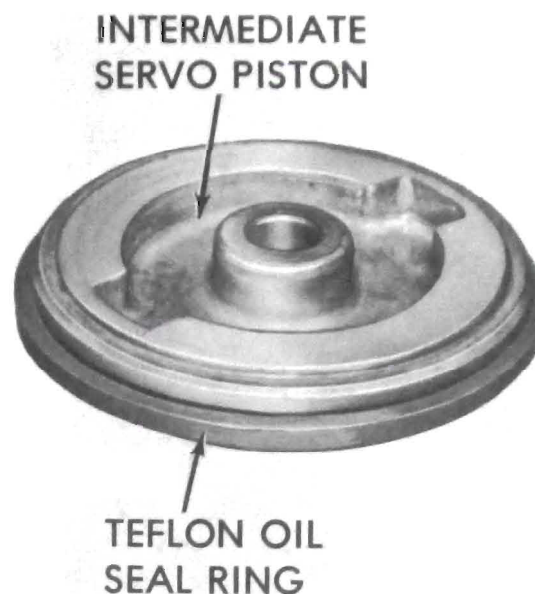

Figure 75-266
1. Install oil seal ring on the intermediate servo piston. See Figure 75-266. Oil seal ring must not be cast iron (dark colored).